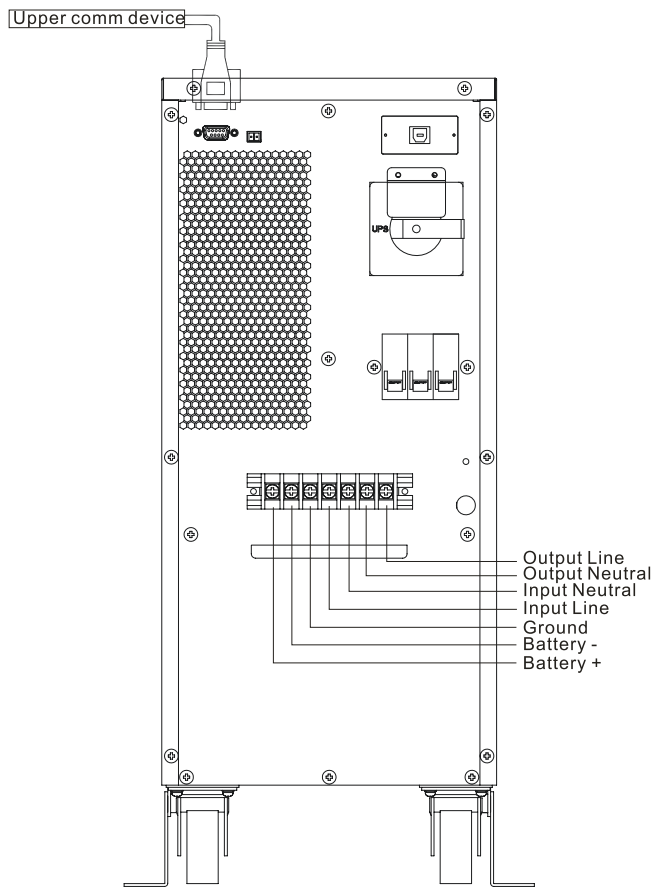
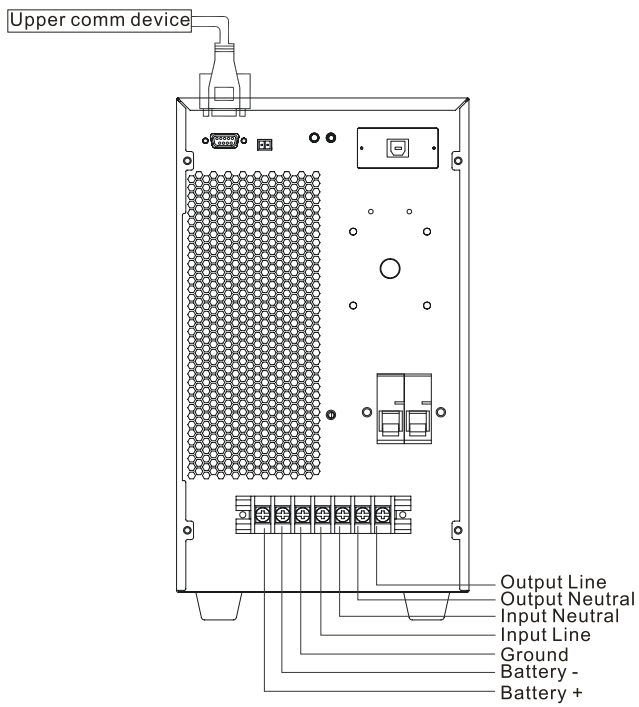

Figure3-6 Wiring diagram of 6kVA
Figure3-7 Wiring diagram of 6kVA(L)
In the 6kVA(L) series UPS, the input, output and battery adopt the terminal bar. The wiring for the 6kVA series UPS is as shown in Figure3-6 and the wiring for the 6kVA(L) series UPS is as shown in Figure3-7.